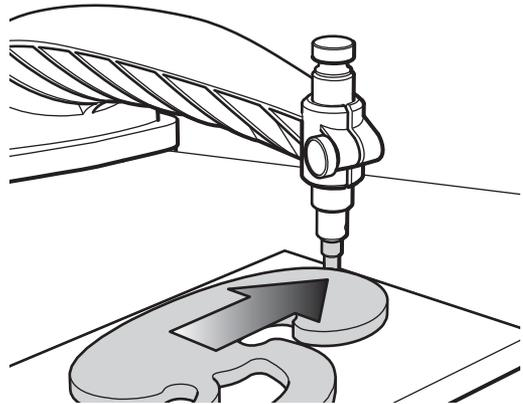

Figure 11: Feeding workpiece into bit until guide pin contacts template.
**Note:** If you do not have a bit jack, you will have to start with the bit in its raised position. In this case, carefully feed the workpiece into the spinning bit until the template contacts the guide pin (**Figure 11**).